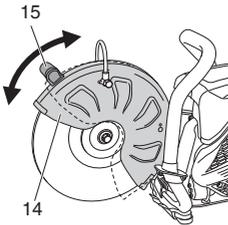

Fig. 14
- Wheel guard (14) can be moved by hand without using a tool. To adjust the wheel guard (14), use handle(W) (15), or press the end of wheel guard (14) against the workpiece. (Fig. 14)